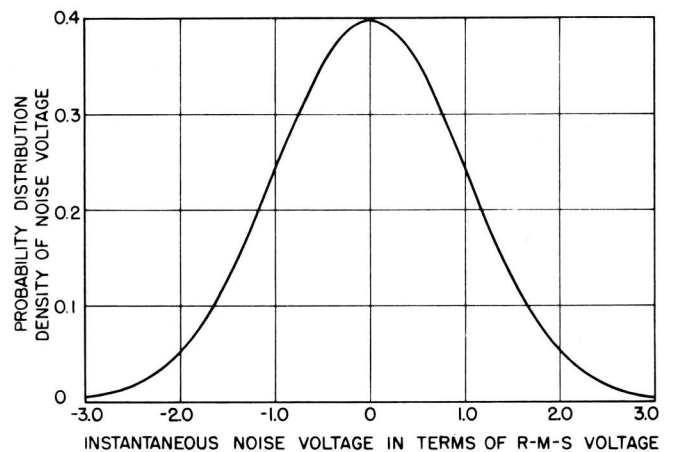

Figure 5.
In Figure 5, the probability that a voltage between two limits will be observed is given by the area under the normal curve between those two limits. Ex-
**2.4 DEPARTURES OF OUTPUT FROM TRUE RANDOMNESS.** The curve in Figure 5 is a theoretical curve and is symmetrical about the origin. The noise of the generator has a similar distribution, but is somewhat asymmetrical because of the gas tube. In addition, the inherent amplitude limitations of the vacuum-tube amplifiers limit the distribution curve at high levels. Clipping is most serious on the 500-kc and 5-Mc ranges. When a narrow-band filter is used at the output, the distribution becomes more nearly random.